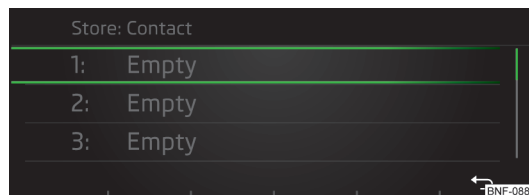

Fig. 114
- Select the location for favourite storage» Fig. 114.